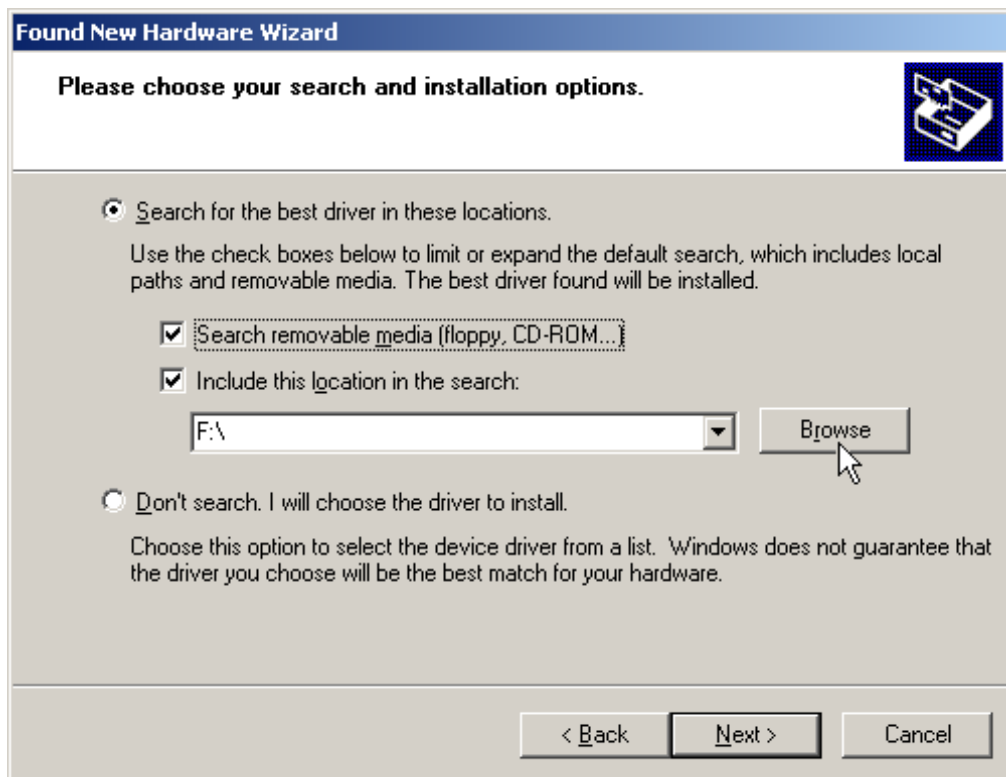
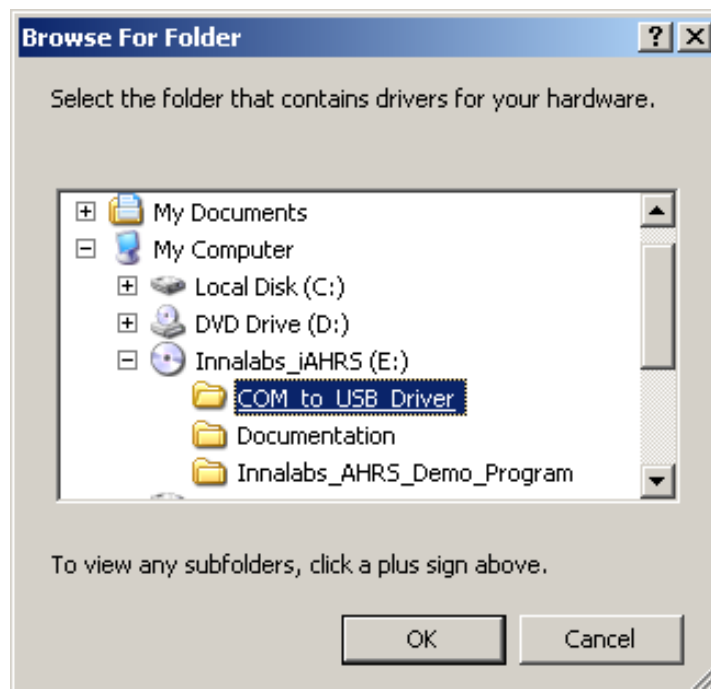
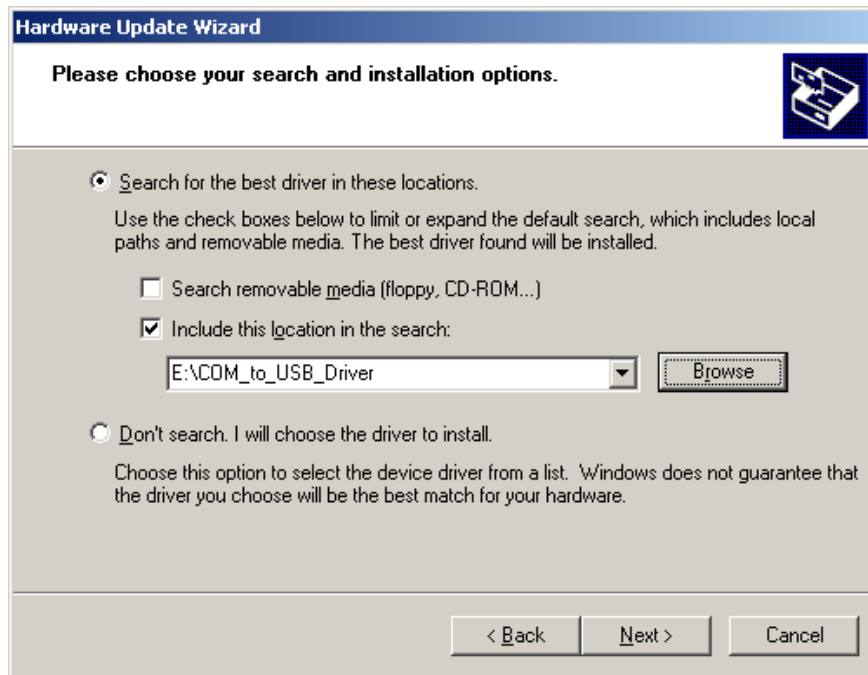

Fig.A.3
Fig.A.4
Fig.A.5
– Window (Fig.A.3) will appear on the display. Check “Include this location in the search:” and click on “Browse”. Show the path to the converter drivers folder in the window (Fig.A.4) which appears on the top of the previous one (folder name may differ from the name in Fig.A.4) and click “OK” (if a folder containing no driver files is selected, “OK” button will remain inactive). Next, in the window Fig.A.3, which will be looking like the window in Fig.A.5, a path will be defined. Using this path the installation program will search for the necessary converter driver. Press “Next” to continue installation.
If the necessary drivers are not installed, an error message (Fig.A.7) will appear. In this case, click “**Back**” and set the correct path to the driver files in the window in Fig.A.3.